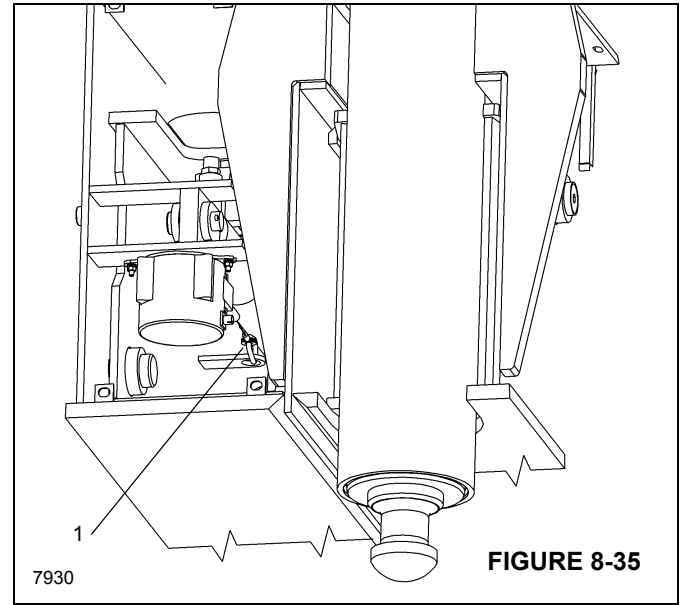

FIGURE 8-35
3. Remove the OMS string potentiometer connector (1, Figure 8-35) from the attaching point on the outrigger beam.